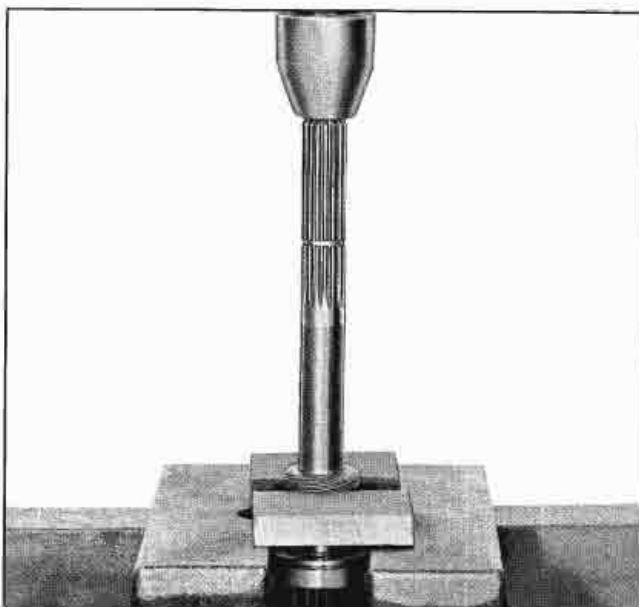

Fig. 7-39 Removing Speedometer Drive Gear
2. Press speedometer drive gear off mainshaft, using suitable split plates in an arbor press (Fig. 7-39).